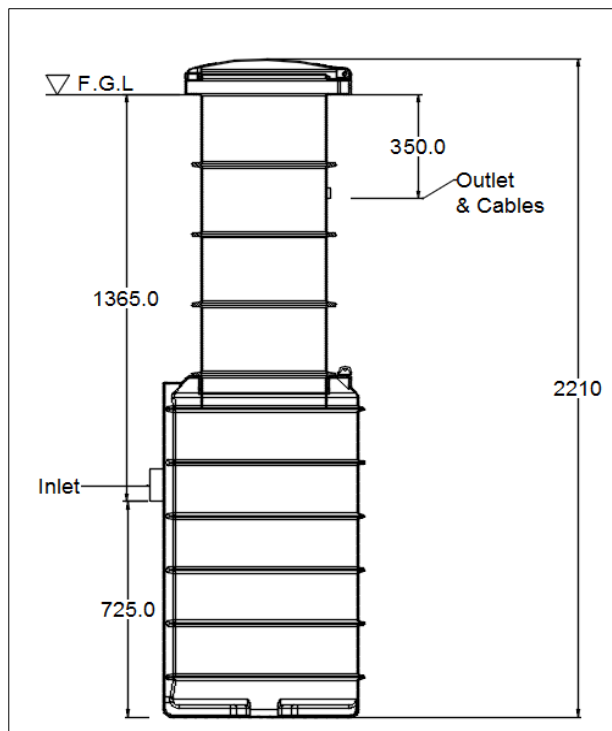

Figure 3 Pump Chamber with riser. Showing max height.
**Max height, can be cut down to suit other applications. See Figure 3 Pump Chamber with riser. Showing max height.